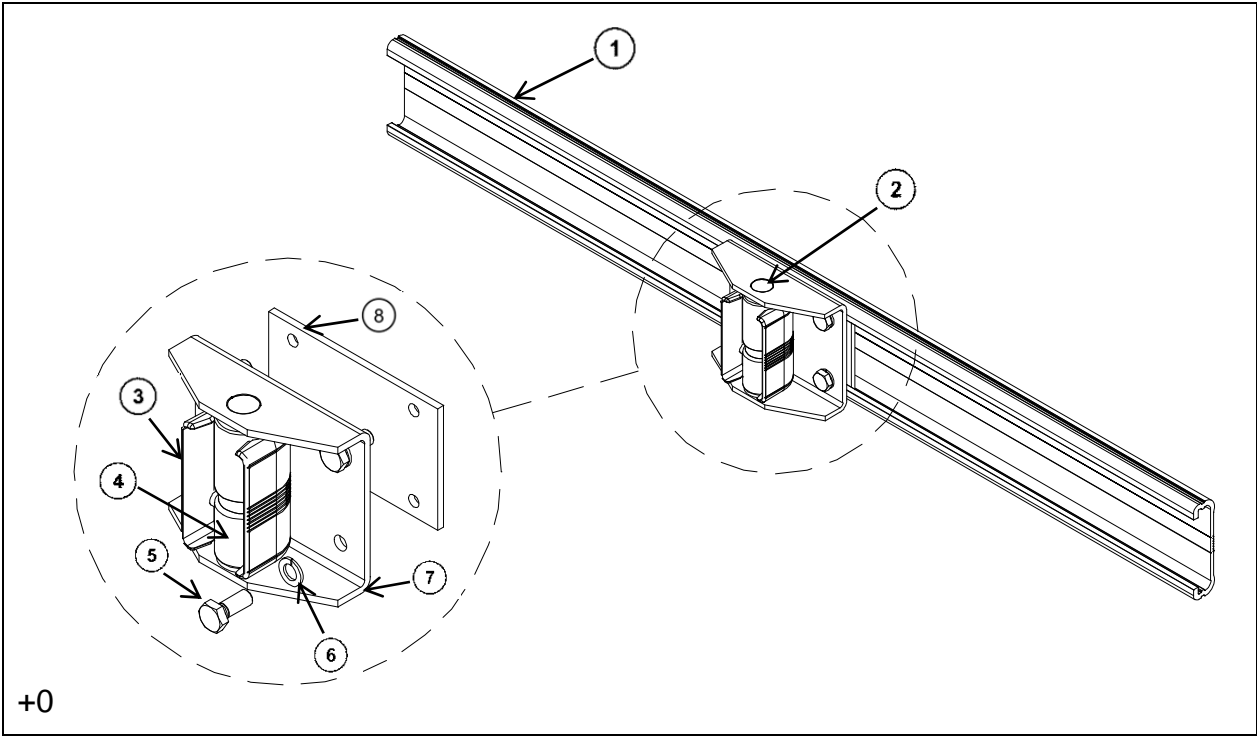

Figure 8
- ◆ Carefully inspect product upon arrival. If any component is missing (see Figure 8) or appears to be damaged, do not install the Easytrack system. Arrange for repair/replacement of any faulty parts by contacting your local distributor for further instructions.